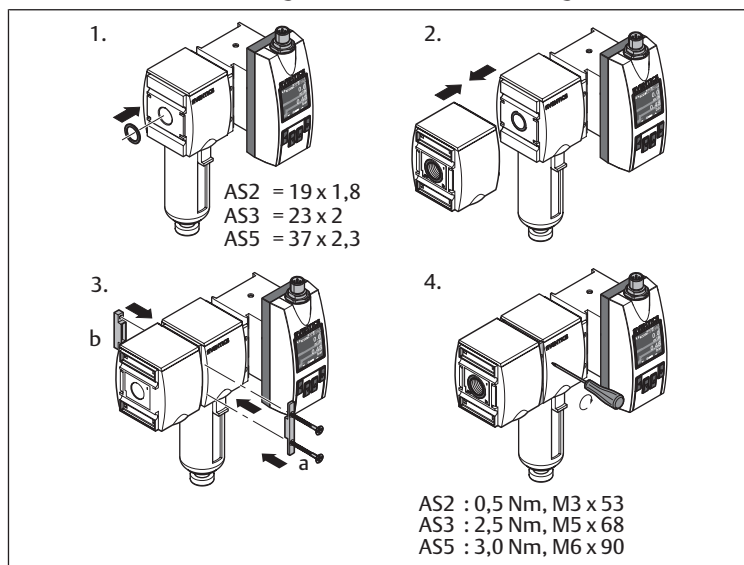

Fig. 6: Assembly with block assembly kit | W04
- Assembly with block assembly kit and air preparation unit: see → Fig. 6.